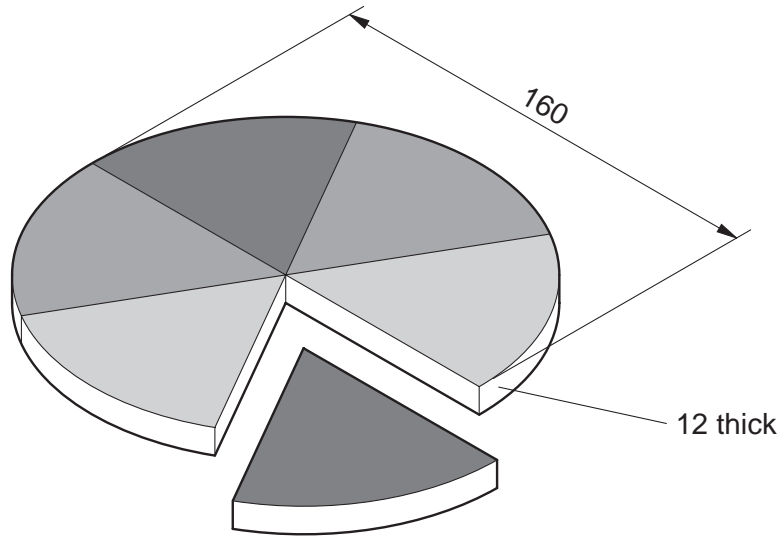

Fig. 6
- 4 Fig. 6 shows a wooden puzzle.